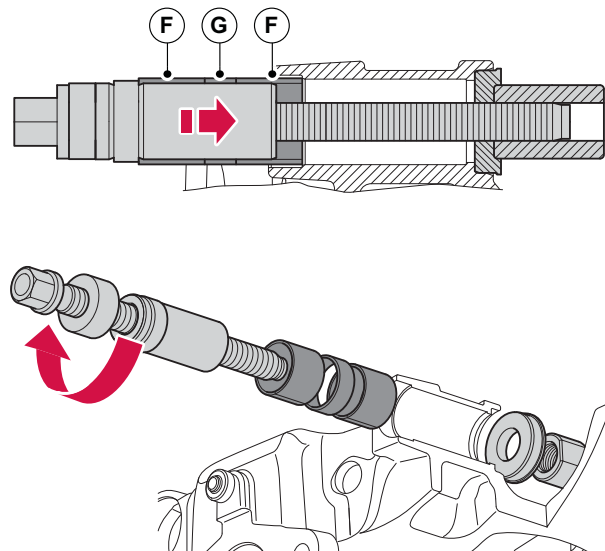

Figure 59. Tool assembly for leading slide bearings
2. To install the two new bearings (F) and the new spacer (G) on the leading side, assemble in sequence Haldex special tool P/N's 95230, 95423, 95219, 95221 and 95220, preloaded with the new parts, as shown in figure 59.
3. Once fitted correctly, turn the threaded tool clockwise which will pull into position the two bearings (F) and spacer (G) complete.